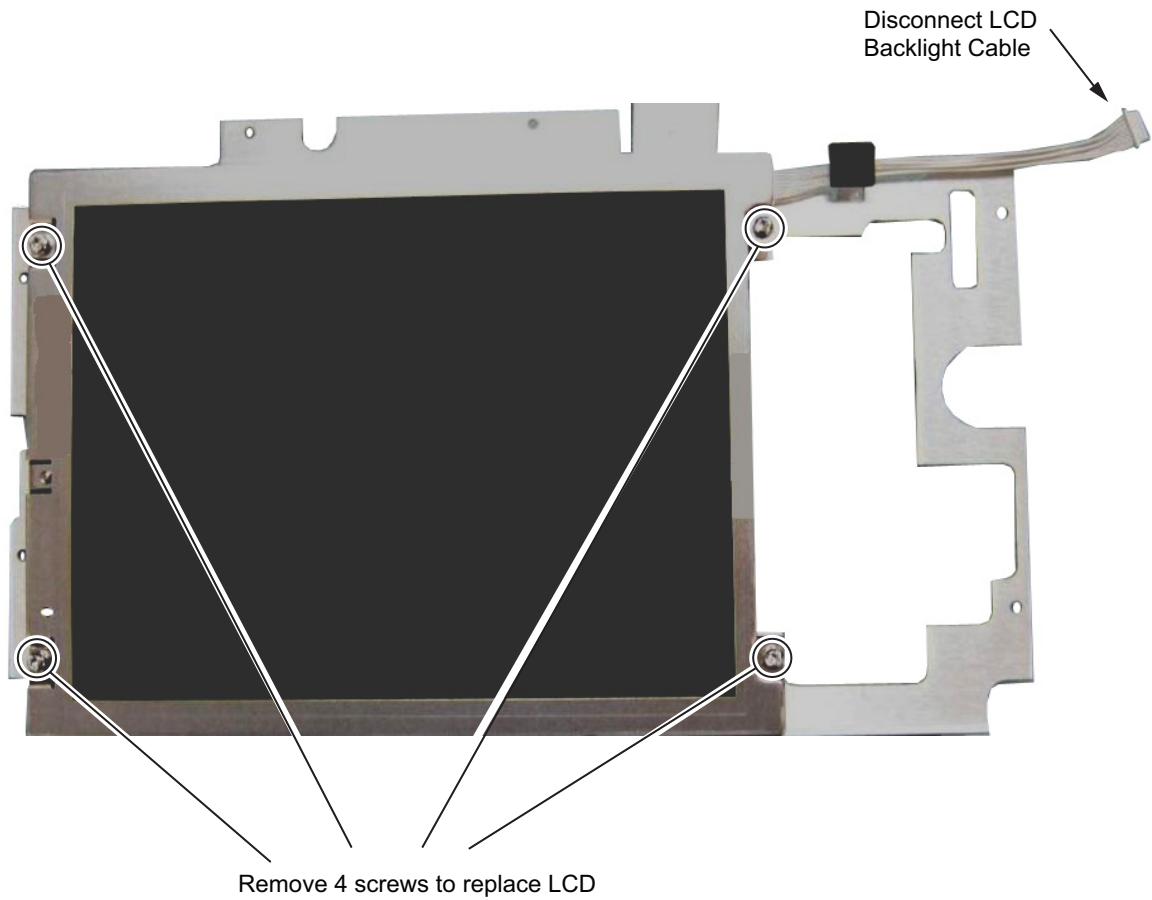

Figure 8-9. Replacing the LCD
6. Remove the four screws securing the LCD Display to the bracket assembly (Figure 8-9).